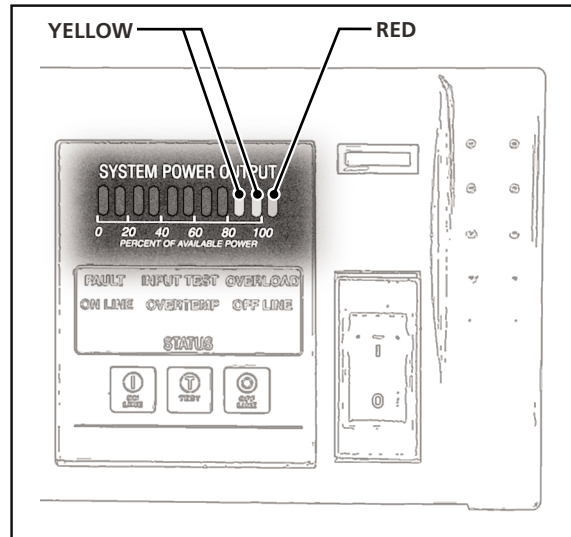

Figure 4-6 Warning Indicators
**Red** The last red bar indicates that the generator is in an overload condition delivering more than its rated output power. Figure 4-6 shows the red overload and two yellow warning indicators. The red warning indicator lights up just prior to an overload condition. The ultrasonic signal is shut down when an overload condition occurs.